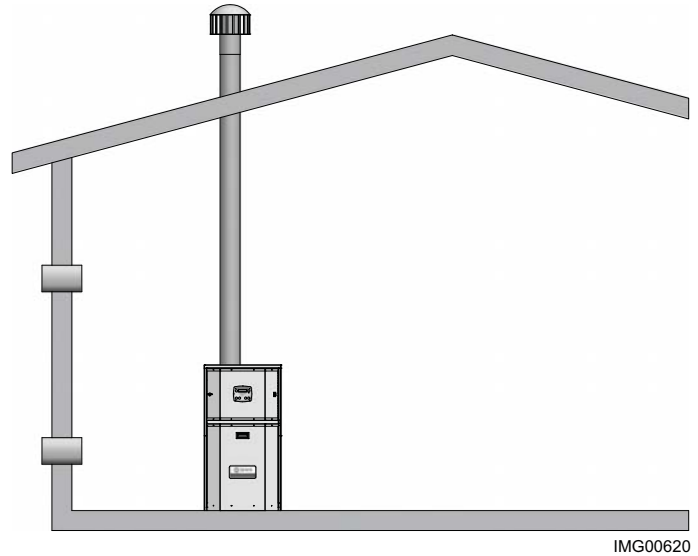

Figure 1-2_Combustion Air Direct from Outside
1. If air is taken directly from outside the building with no duct, provide two permanent openings to the equipment room (see FIG. 1-2):